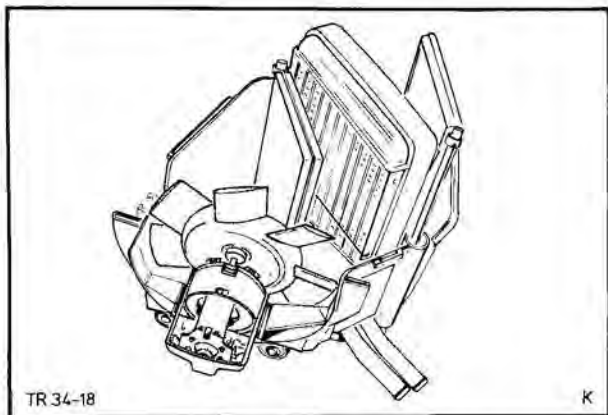

Fig. 21. Remove blower motor and air flap valves from housings
2. Remove blower motor and air flap valves from housings, Fig. 21.